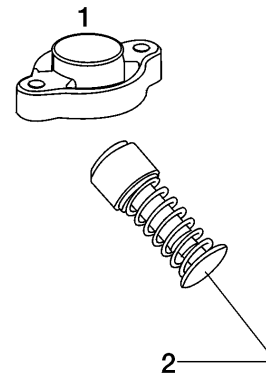

Fig. 13: D12C, oil cooler pressure valve
**Note:** The thermostatic valve has been replaced by a pressure valve (see Fig. 13: D12C, oil cooler pressure valve, page 19).